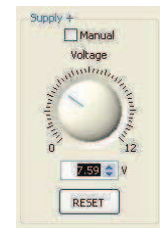

Figure 8
20. Set the Variable Power Supplies positive output voltage to exactly 7.59V by typing that number into the *V* window as shown in Figure 8 then press the *Enter* key.